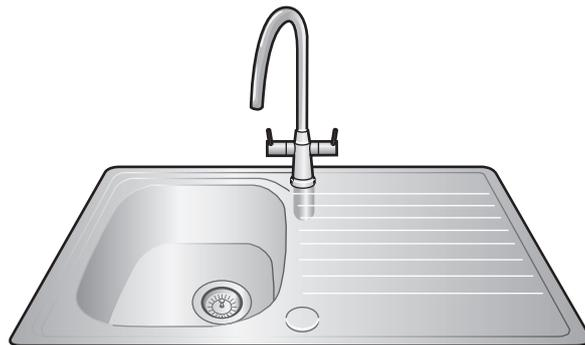

Fig. 4.1
- 4 Fig. 4.1 shows a sink unit made from stainless steel.